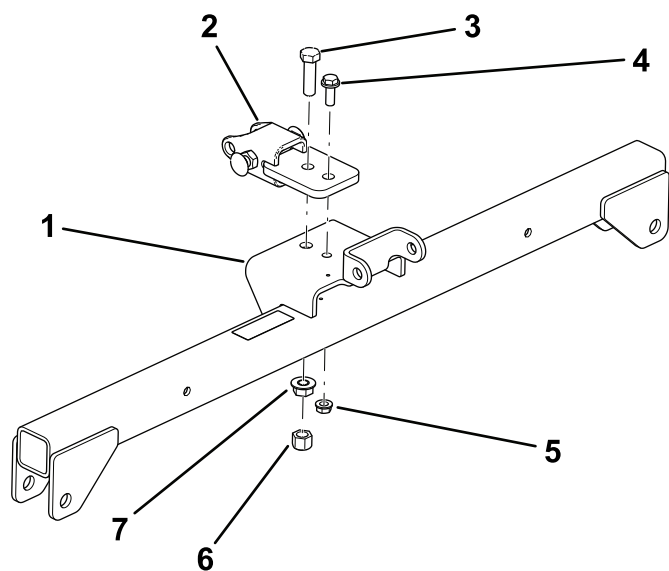

Figure 3
1. Loosely mount the drawbar to the front hole in the hanger assembly (Figure 3) with a bolt (1/2 x 1-3/4 inches), flange nut (1/2 inch) and a hex nut (1/2 inch).